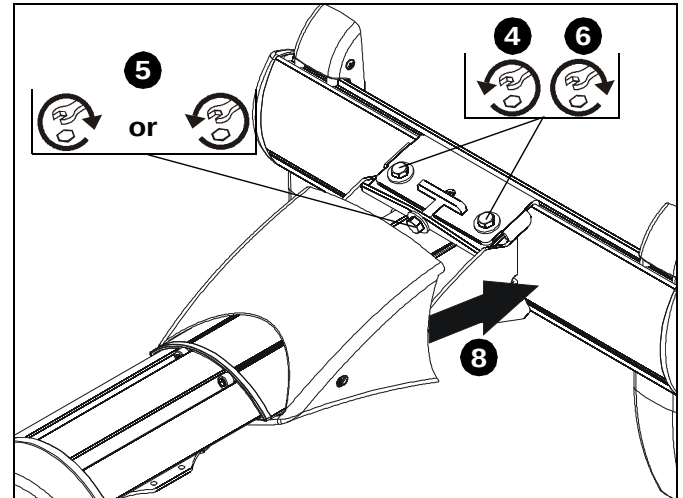

Figure 36
4. Loosen two bolts on either side of pitch adjustment screw. (See Figure 36)
5. Adjust pitch adjustment screw until mount is at desired pitch level. Turn clockwise to raise mounting level or turn counterclockwise to lower mounting level. (See Figure 36)
6. Tighten two bolts on either side of pitch adjustment screw. (See Figure 36)
7. Tighten two 1/4-20 x 5/8" screws (E) on underside of mounting bracket. (See Figure 36)
8. Slide outer cover of mount (A) back against mounting bracket. (See Figure 36)